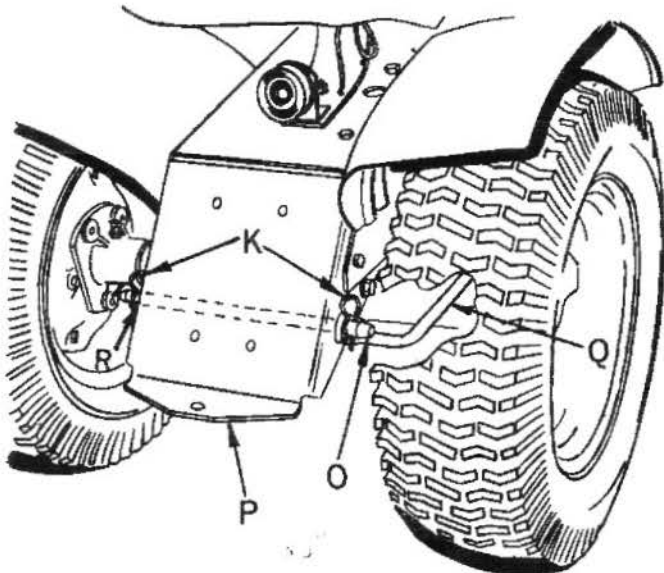

FIG. 6
11. Refer to Fig. 6. Slip lower link pin (O) through holes in sides of tractor drawbar (P) as shown. NOTE: Insert and spread  $3/16 \times 1$  cotter pins in lower link pin (O) under and between sides of drawbar (P).
14. Refer to Fig. 6. Slip R.H. and L.H. push rods (Q & R) over ends of lower link pin (O) as shown and secure with retainer springs (K). Tighten four (4) bolts in hanger brackets R.H. and L.H. (B & C) and rocker bar (N) left loose in steps 9 & 10.